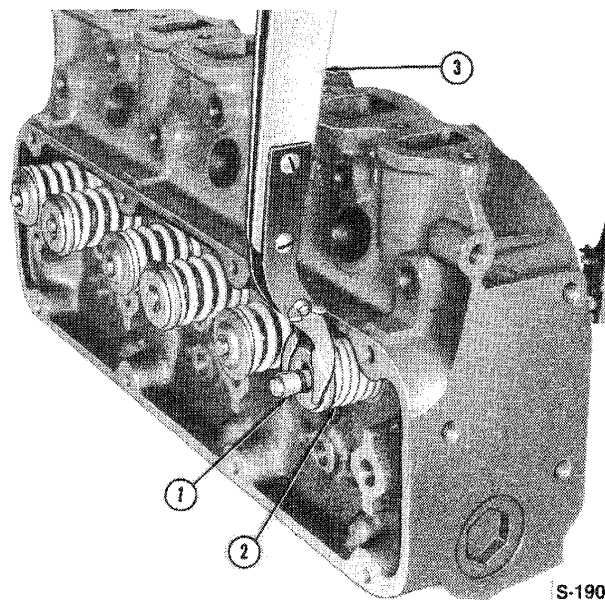
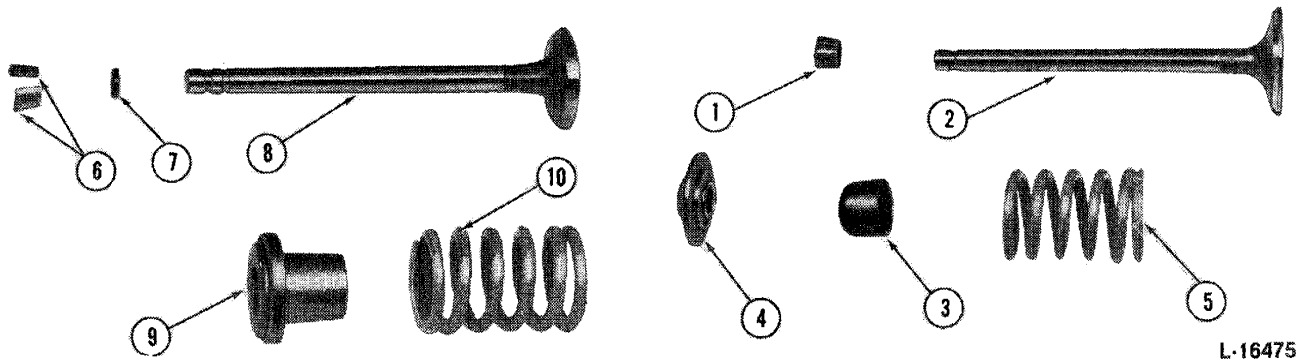

**Figure 9**
**Figure 10**
3. Using a valve spring compressor, Figure 9, remove the retainer locks, spring retainers or rotators, springs and seals from each valve, Figure 10.